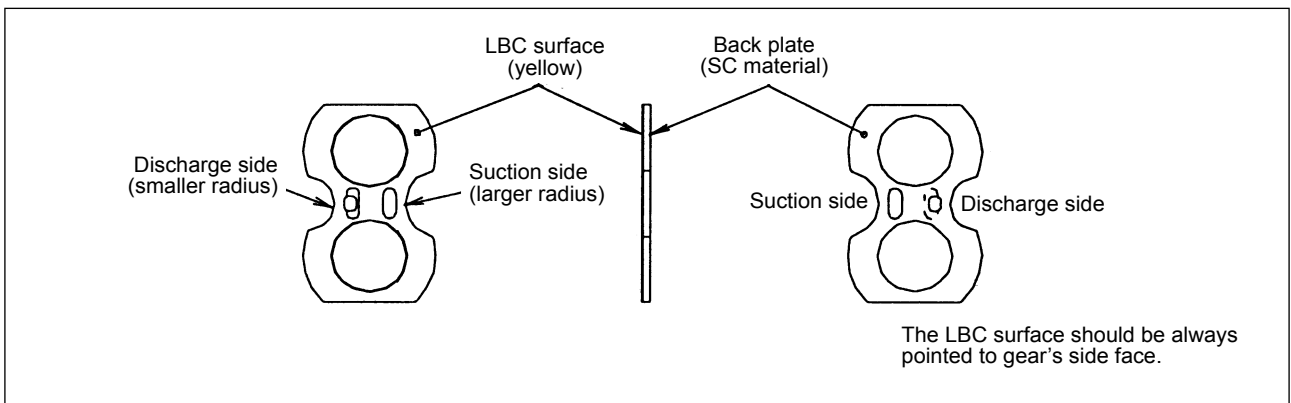

Fig. 3.392
- ⑤ Install the front side plate (1) on the front cover (2), referring to Fig. 3.392.
- ⑧ Install the adapter side plate (1) in the pump body half 1 (2), as shown in Fig. 3.392.